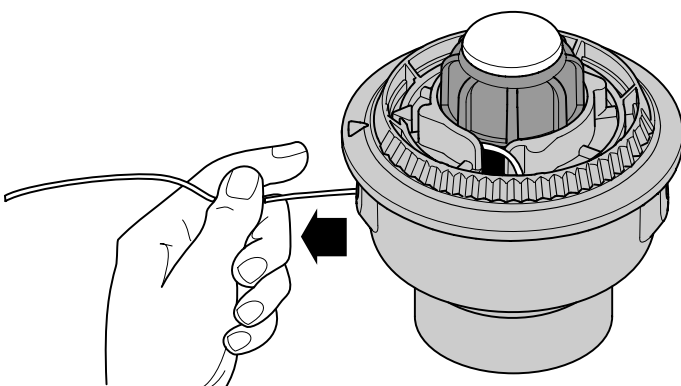

Fig. 43
6. Pull the line from the outer spool until the line is tight against the inner reel (Fig. 43).